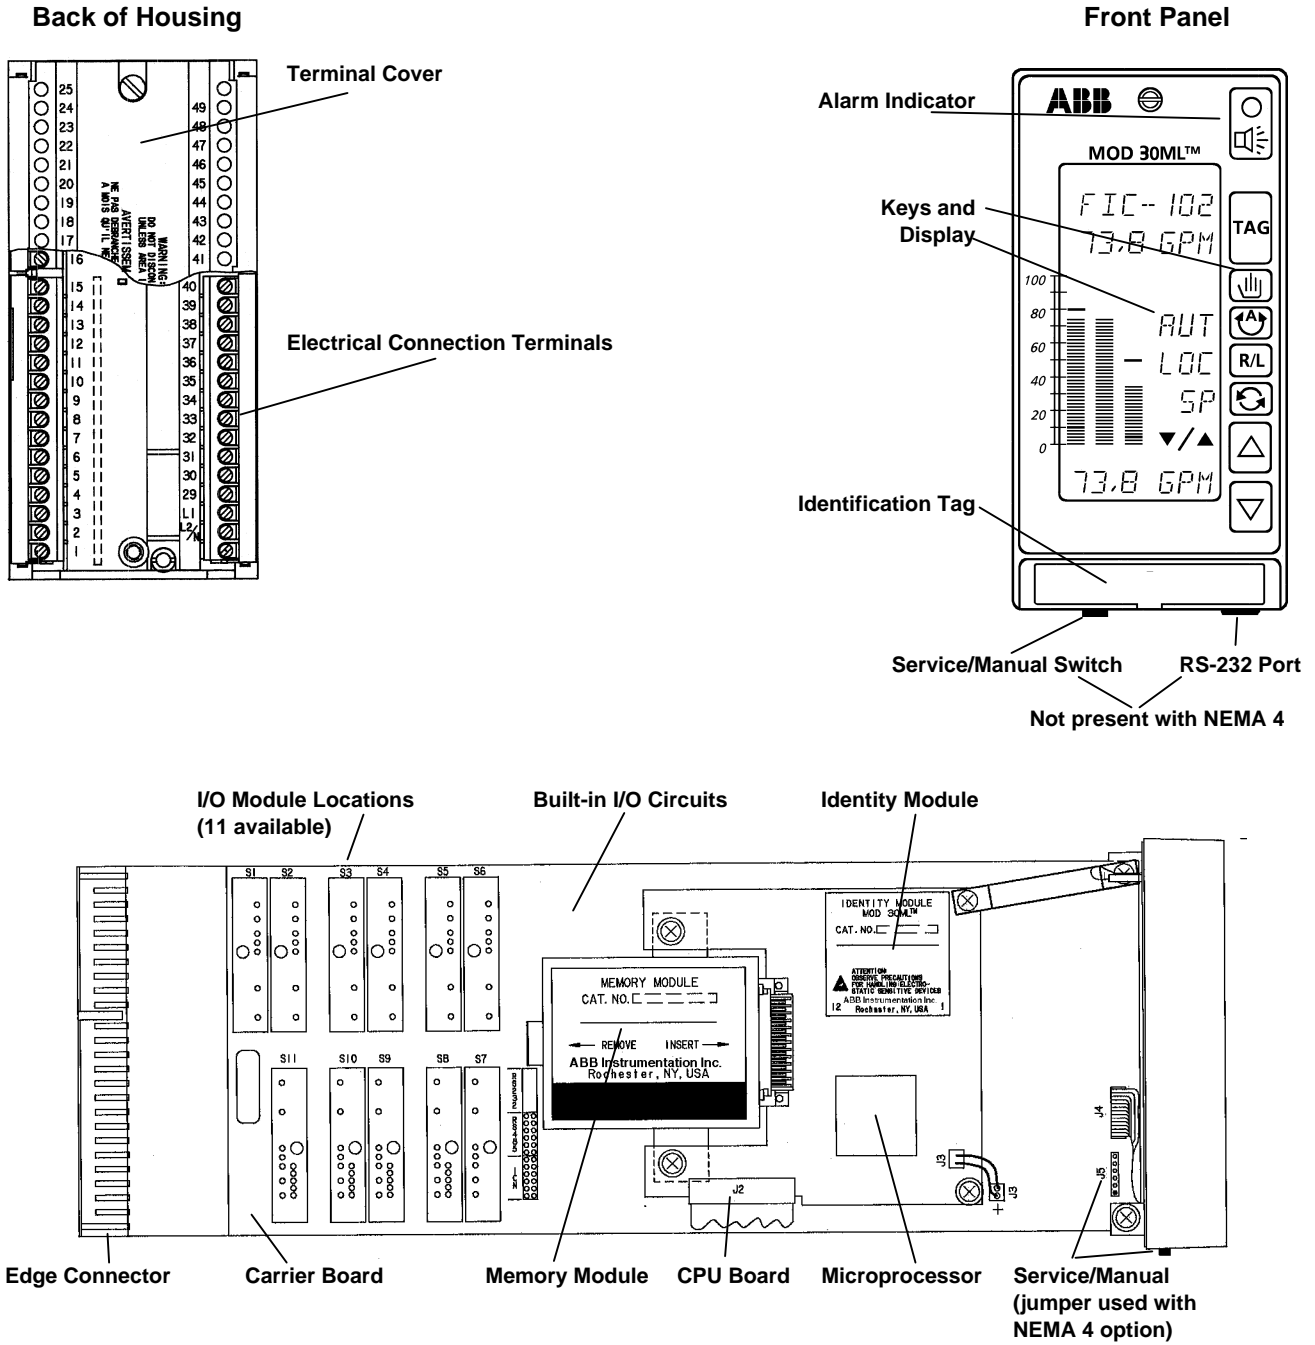

Figure 1-1. Location of Controller Components
The MOD 30ML Multiloop Controller, Figure 1-1, is a 3x6 instrument with a 7 line 3 bar graph configurable display, removable rear terminations, built-in communications, two built-in analog inputs and two outputs, room for eleven additional modular I/O positions (single point or remote I/O interface) and an optional memory module.
- A Service Manual switch under the front panel which allows a single point output to be manually adjusted and displayed (Jumper J5 for NEMA 4 as shown in Figure 1-1).
The 1800R, Figure 1-1, is designed for mounting in a panel with a 15.75-inch depth. The instrument housing contains a 50-point termination facility which accepts all instrument I/O, communications, and power connections. A separate grounding stud provides a safety ground connection. This assembly is designed to allow termination signal entry from either top or bottom, allowing for flexibility in signal separation for wiring considerations. The instrument connects to the terminals via an edge connector at the back of the carrier board, permitting interchangeability without disconnecting field wiring.
The identity module, Figure 1-1, gives the instrument a specific level of process and communications functionality. The 1800P module is factory installed and provides the capability to execute a user-configured database which consists of built-in and modular I/O handling capabilities, PID functionality, and a collection of other control related functions. These include process alarms, input signal linearization, timers, totalization, signal selection, lead/lag filtering, dead time compensation, and automatic tuning. These functions reside in a group of basic data base elements called function blocks.
The optional memory module plugs directly into the CPU board, Figure 1-1, and provides a mechanism for porting a database from one instrument to another. An instrument with this option can upload from or download to this module. The memory module has a write protect setting to prevent accidental erasures. When a memory module is installed in an instrument with the write protection off, the operating software keeps the module up-to-date with all real time changes in the instrument. Enhanced security is thereby provided through this backup database copy. Data retention is typically 10 years with instrument unpowered.